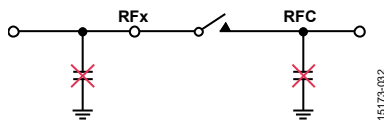

Figure 42. Avoid Connecting Large Capacitive Terminations Directly to the Switch
- Avoid connecting large capacitive terminations directly to the switch. A shunt capacitor can store a charge that can potentially give rise to hot switching events when the switch opens or closes, affecting the lifetime of the switch. Figure 42 shows where to avoid large capacitive terminations.